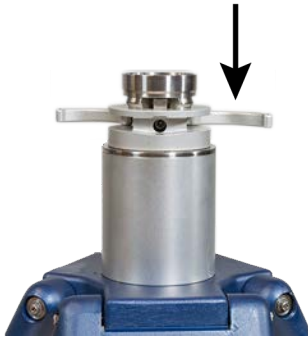

Figure 4-3 Loosening Side Lever
1. Pull out the other lever as shown in Figure 4-3 and use it to loosen the mandrel and unthread it from the stand.